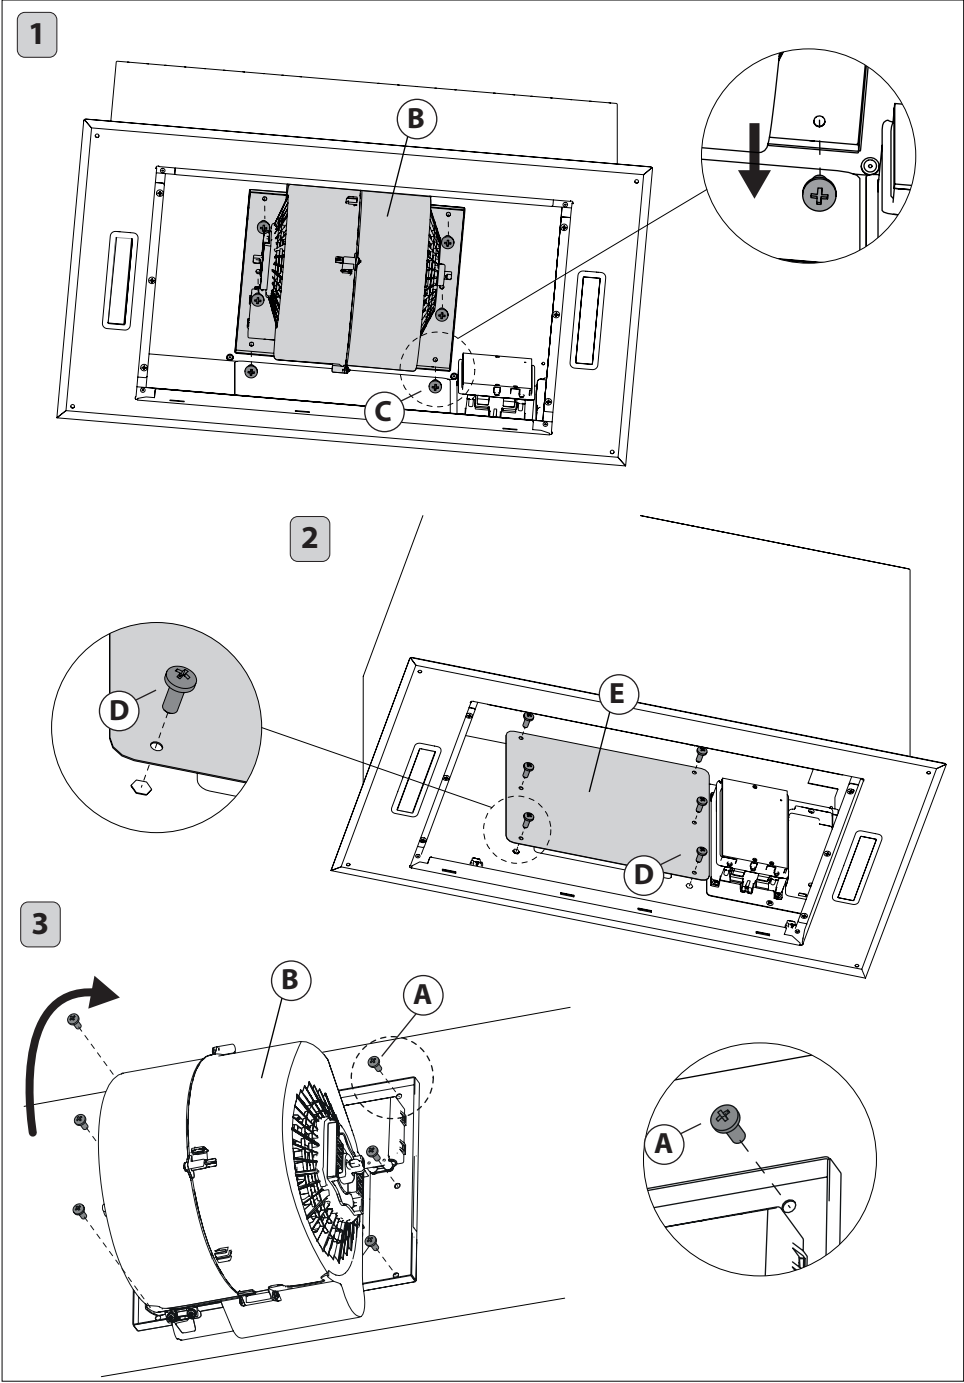

Fig.3
- Before fixing the hood to the wall, determine the direction of the air outlet. If it is necessary to rotate the motor unit **B**, remove the screws **C** (Fig.3 - step 1) that secure the motor unit **B** to the hood.
- Remove screws **D** and bracket **E** (Fig.3 - step 2) and fix it where motor unit **B** was positioned.
- Rotate the motor unit **B** as indicated (Fig.3 - phase 3) and fix it to the hood with screws **C** (Fig.3 - phase 3) previously removed.
- Tighten the 4 screws and dowels **G** without pulling them out completely as indicated in (Fig.3 - phase 1 and 1X) and hook the structure **H** to the wall. Tighten screws **G** to permanently fix the structure to the wall (the screws and expansion plugs must be suitable for the type of wall).